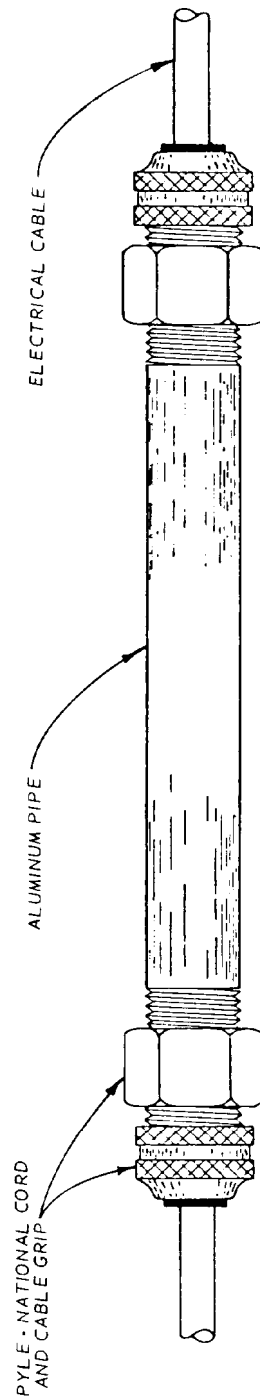

Figure B-2. Completed Aluminum Pipe Splice. (Prepared by WES)
Step 10. Move the two Pyle-National Cord and Cable grips over the cable to the ends of the pipe and attach them to the pipe. Tighten the connectors securely such that the pipe becomes a watertight chamber containing the splice. The end fittings and grommet should grab the electrical cable such that the pipe will not slip with respect to the cable and that any tensile stress put on the cable will be transferred across the splice through the pipe and not the splice itself. Figure B-2 shows the completed splice.